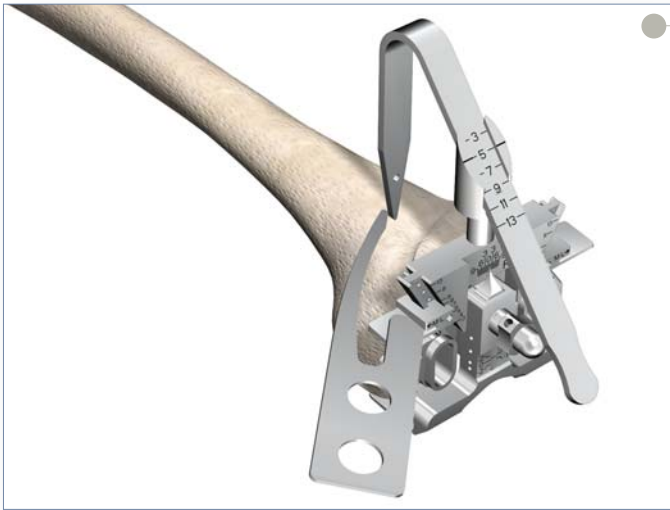

Figure 13
- ▶ Snap the Femoral Stylus into position on the anterior surface of the Sizer. Using the Blade Runner, determine the implant size that gives the optimum anterior fit (**Figure 13**).